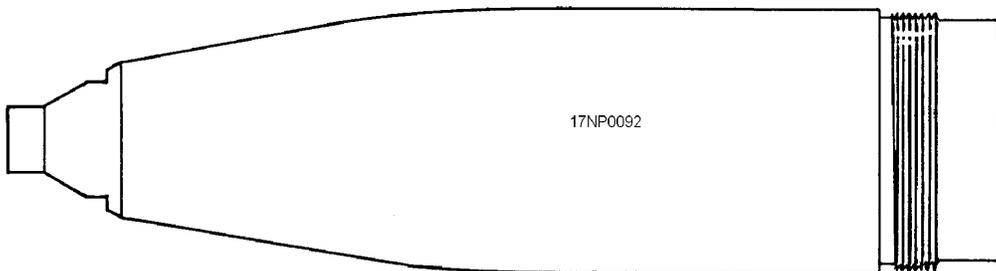

Figure 2-8.—Mk 24 Mod 0 high-explosive, general-purpose (GP) warhead.
GP WARHEAD.—The high-explosive, general-purpose (GP) warhead (fig. 2-8) is a compromise between the armor-piercing and the fragmentation designs. The walls and nose section are not as strong as those of an armor-piercing warhead, yet they are stronger than those of a fragmentation warhead. The explosive charge is greater than that in the armor-piercing warhead, but less than that in the fragmentation warhead.